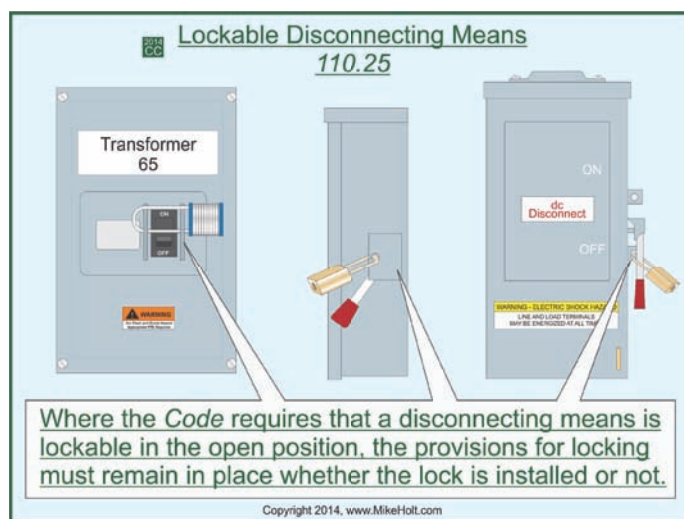

Figure 110-9
**110.25 Lockable Disconnecting Means.** Where the *Code* requires that a disconnecting means is lockable in the open position, the provisions for locking must remain in place whether the lock is installed or not. Figure 110-9